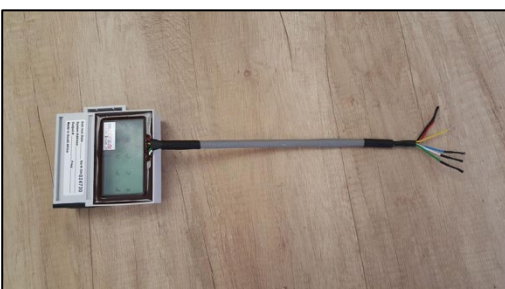

Figure 6: Wire Loom Format
- The output wire loom format as shown in Figure 6 below